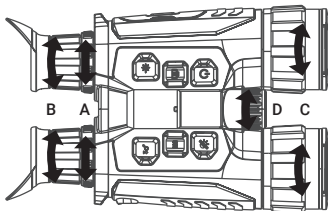

FIGURE 2-5. FOCUS ADJUSTMENT
5. Adjust the interpupillary distance by moving the eyepieces (Fig.2-5, A) farther or closer to each other.
6. Rotate the diopter adjustment rings (Fig.2-5, B) until the on-screen display (OSD) text or image is clear. Once completed, diopter adjustment will no longer be needed again until the device is used by a new user.
7. Point the device towards the target of the view. Bring the object into focus by rotate the objective focus rings (Fig.2-5, C).
8. In the optical **NIGHT** or **AUTO** mode slightly rotate the IR focus (Fig.2-5, D) to adjust the beam angle of the infrared light. The broader the beam angle is, the more spread-out but less intense the light will be.